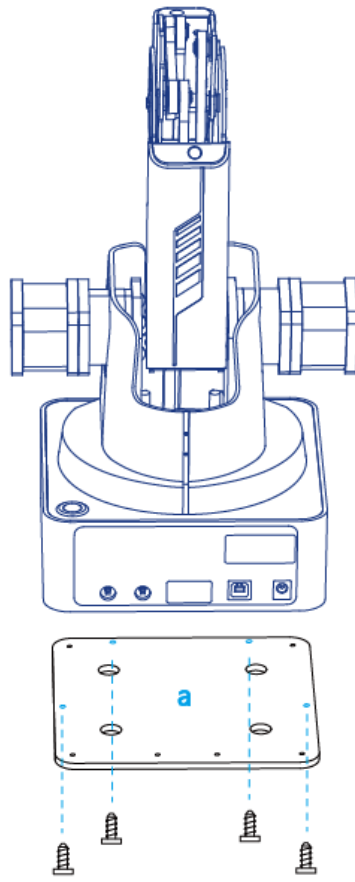

Figure 5.189 Fix plate a
- Step 1** Mount Dobot Magician on the plate **a** with four M3*10 countersunk head cap screws (The counter bore of plate **a** is outwards), as shown in Figure 5.189.